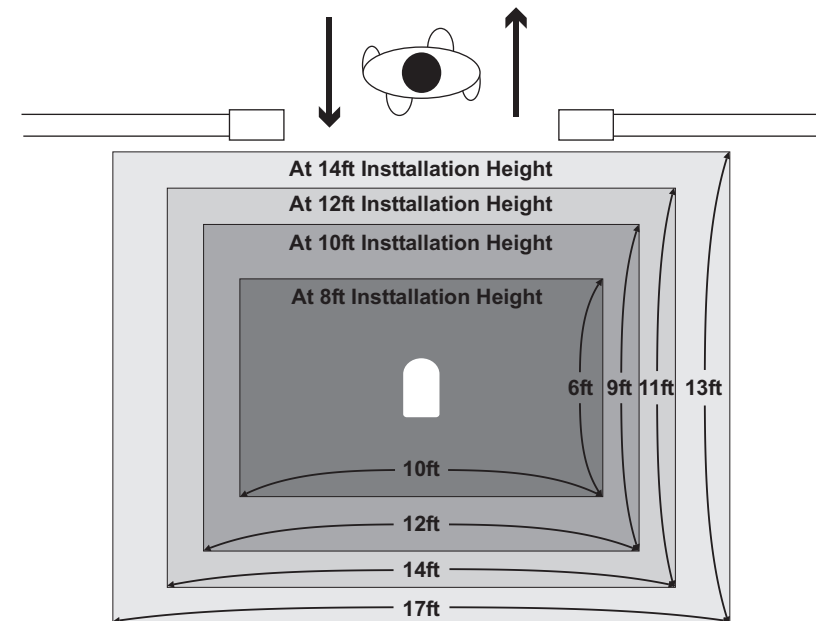

Fig. 1 Installation Heights and Detection Area
Refer to the dimensions of Detection Area for each installation height (Fig. 1) and clear the Detection Area from any movement of objects other than intended traffic.
Refer to the dimensions of Detection Area for each installation height on page 5 (Fig. 1), and place the Camera unit so that the passage is fully covered by the detection area.
- Step 1) Refer to Fig. 1 and find the dimensions of detection area at your intended installation height